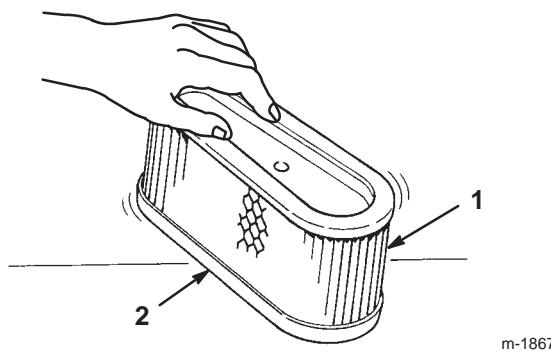

Figure 23
1. Lightly tap the paper element on a flat surface to remove dust and dirt (Fig. 23).